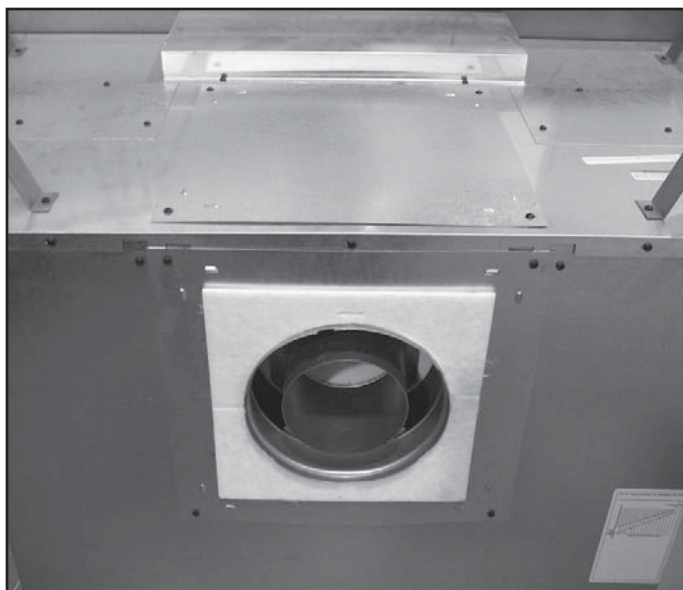

Figure 9.19 Completed Conversion
- The appliance should look like the one shown in Figure 9.19 after it has been converted to a rear vent appliance.